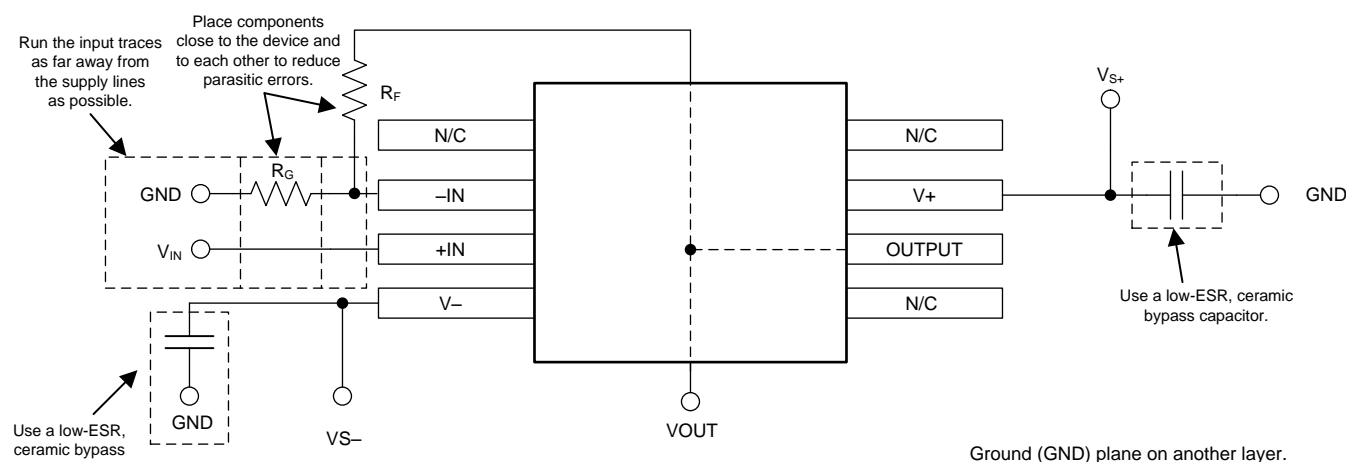

Figure 21. Operational Amplifier Board Layout for Noninverting Configuration
- Place the external components as close to the device as possible. Keep R_F and R_G close to the inverting input in order to minimize parasitic capacitance, as shown in Figure 21.